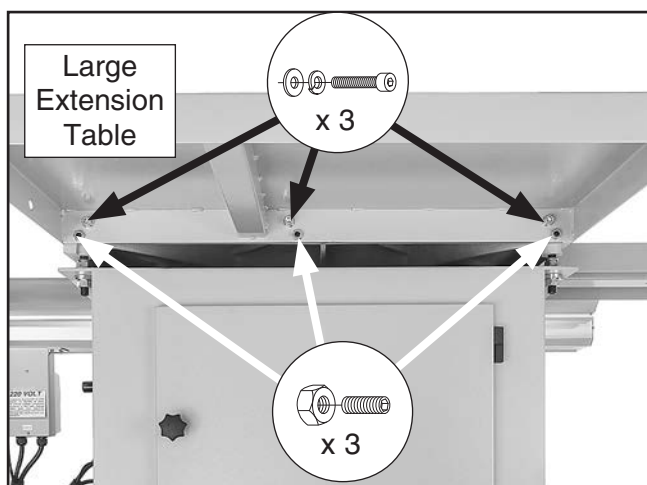

Figure 23. Large extension table attached to cabinet.
7. With help of another person to hold large extension table, attach it to cast-iron table with (3) M10-1.5 x 25 cap screws, (3) 10mm lock washers, and (3) 10mm flat washers, as shown in **Figure 23**. Finger-tighten only, for now.
8. Thread (3) M10-1.5 x 20 set screws with (3) M10-1.5 hex nuts where shown in **Figure 23**.
— If both tables are *not* parallel with straight-edge, loosen hex nuts on set screws shown in **Figure 23**. Adjust set screws to align top of extension table with top of cast-iron table, then retighten hex nuts to secure setting.